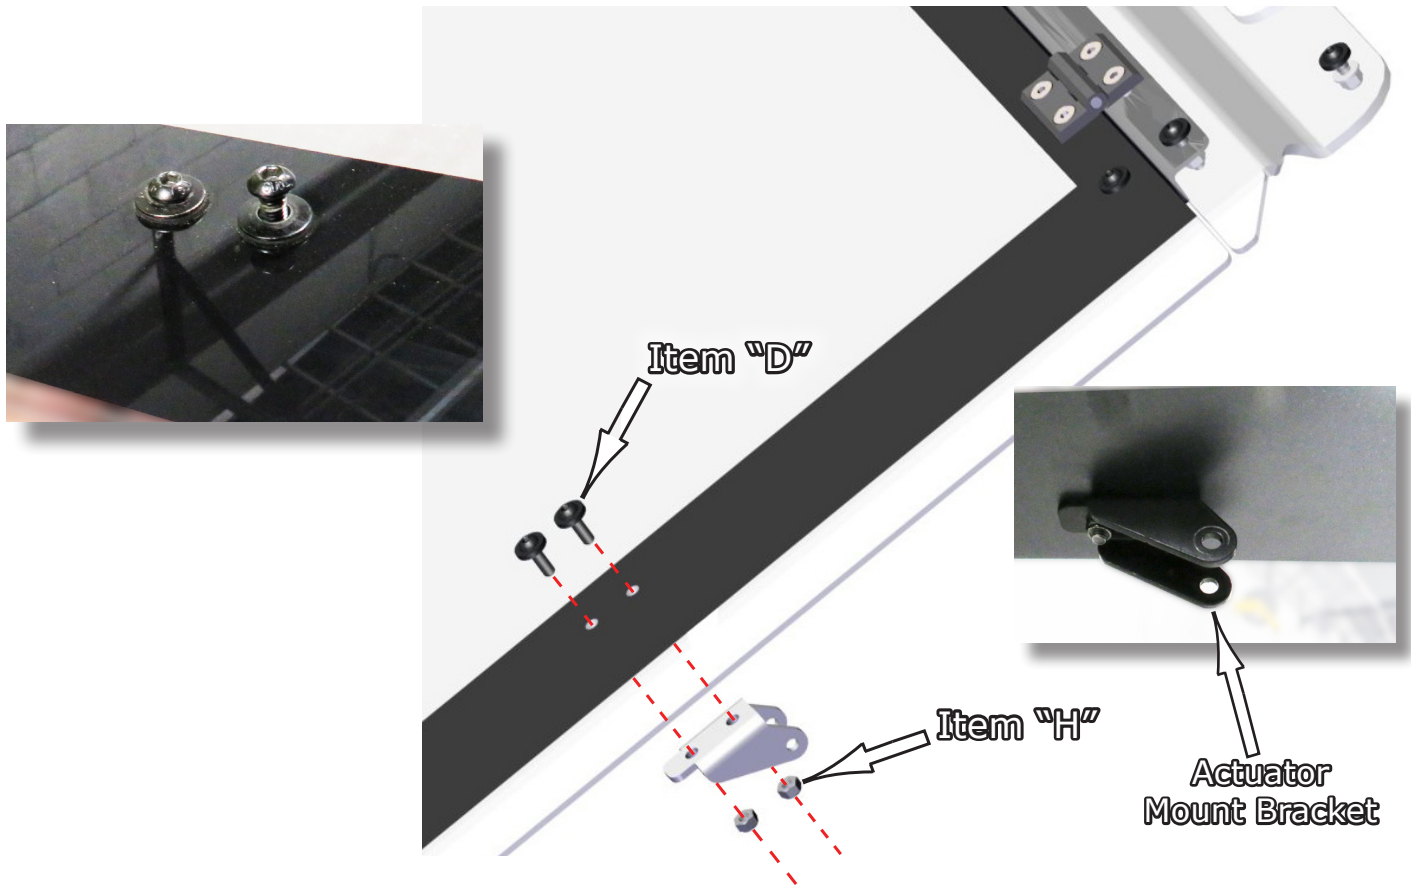

Fig.12
12. Next you will install the Lower Actuator Mounting Brackets to the Windshield. You will install these to the inside surface of the windshield using the M6x20 Sealing Washer Bolts, **Item "D"**, and M6 Nylock Nuts, **Item "H"** and tighten. See **Fig.12**.